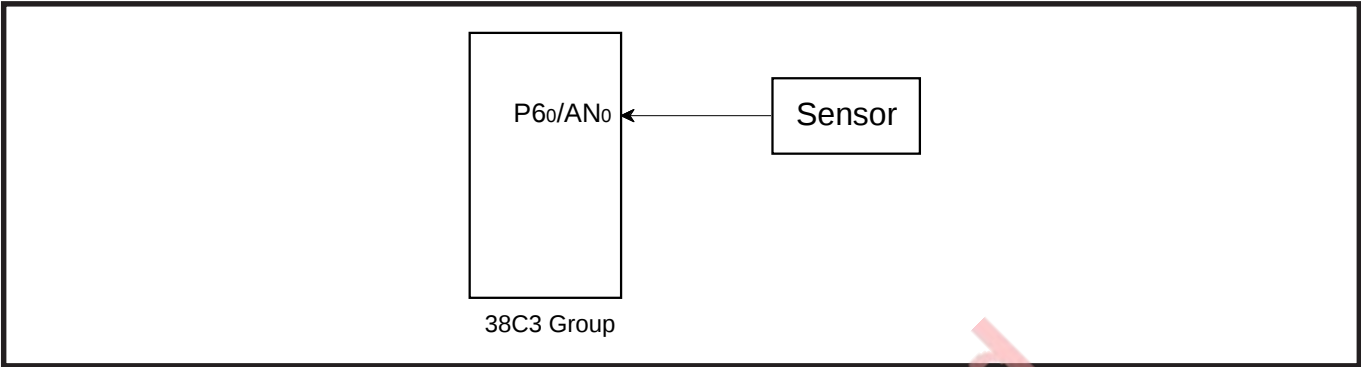
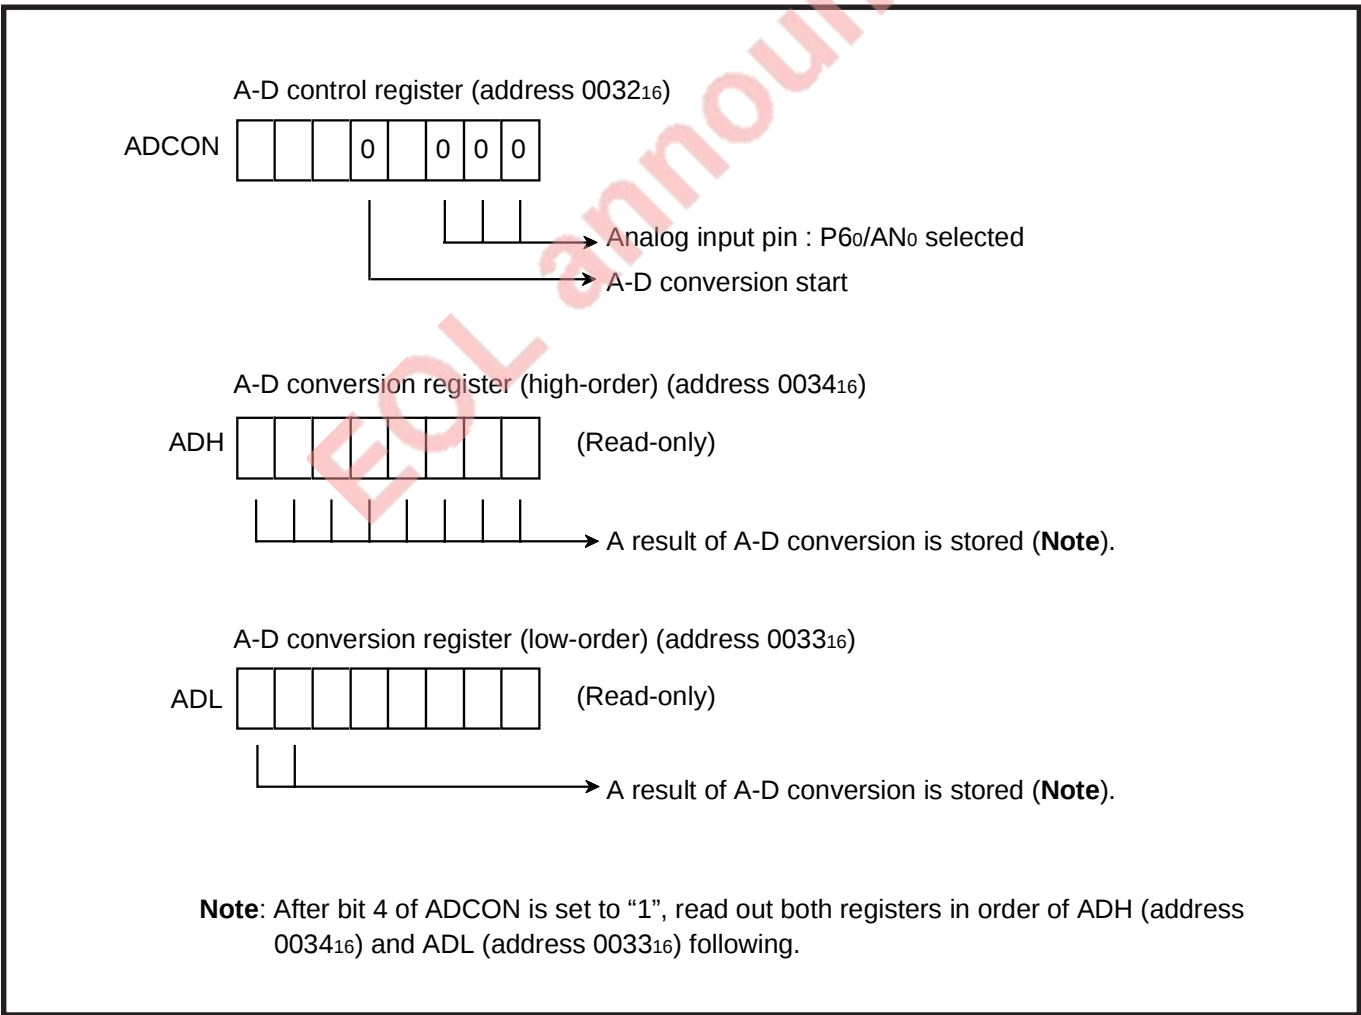
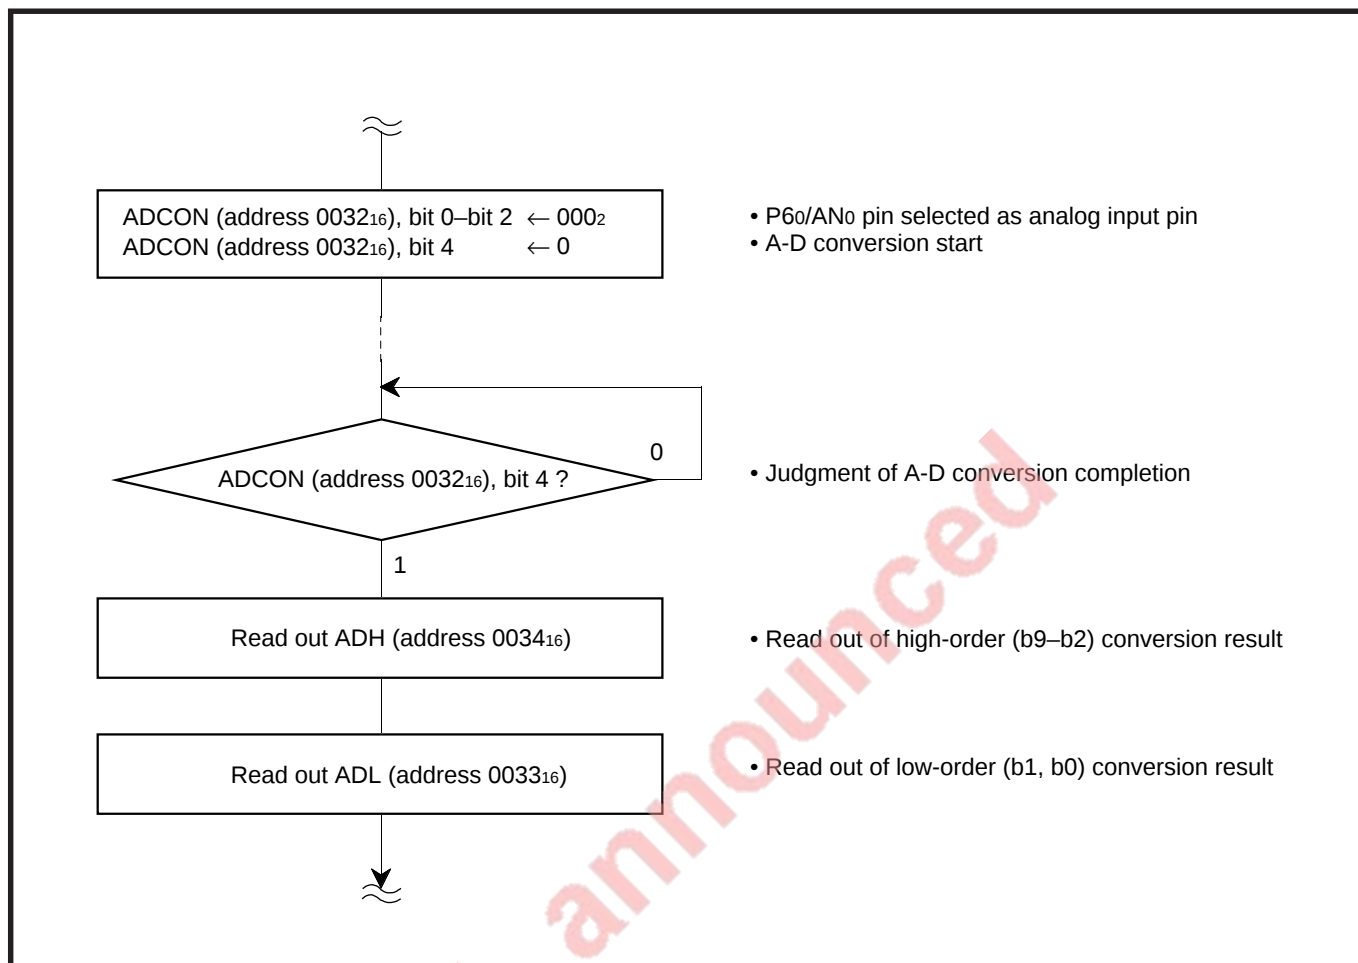

Fig. 2.5.7 Connection diagram
Fig. 2.5.8 Setting of relevant registers
Fig. 2.5.9 Control procedure
Figure 2.5.7 shows a connection diagram, and Figure 2.5.8 shows the setting of relevant registers.
**Control procedure:** A-D converter is started by performing register setting shown Figure 2.5.8. Figure 2.5.9 shows the control procedure.